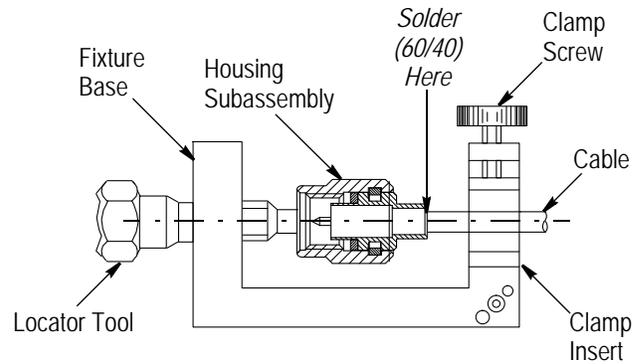

Figure 4
2. Place the housing subassembly and cable into the fixture base as shown in Figure 4. Ensure that: